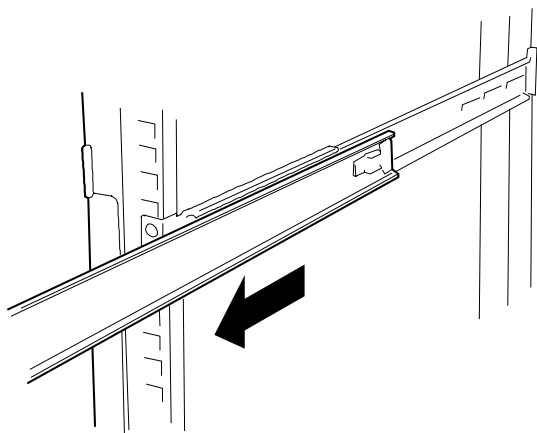

Figure 2-9. Extending the Slide Rails
1. Extend the sliding rails of the right and left rail assemblies out of the system rack until they are locked. See Figure 2-9.